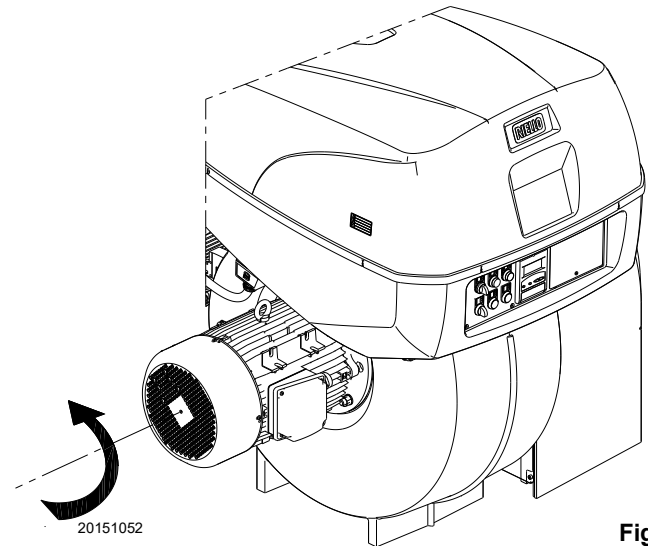

Fig. 47
When the burner starts, check the direction of the motor rotation, as indicated in Fig. 47.
- place the switch of Fig. 47 in position “OFF” and wait for the flame control to carry out the switch-off phase;
The arrival of gas at the pipe coupling is indicated by the U-type pressure gauge (Fig. 47).